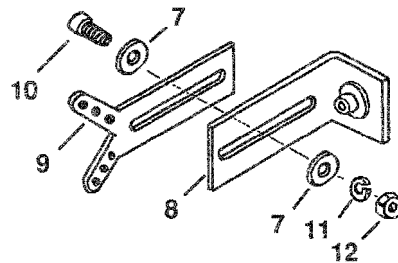

Fig. 5
5. See Fig. 5. Place a flat washer (7) on a $\frac{7}{8}$ " long cap screw (10) and insert the screw through the Y-support (9) and the bracket (8). Attach it with a flat washer (7), lock washer (11) and a hex nut (12).